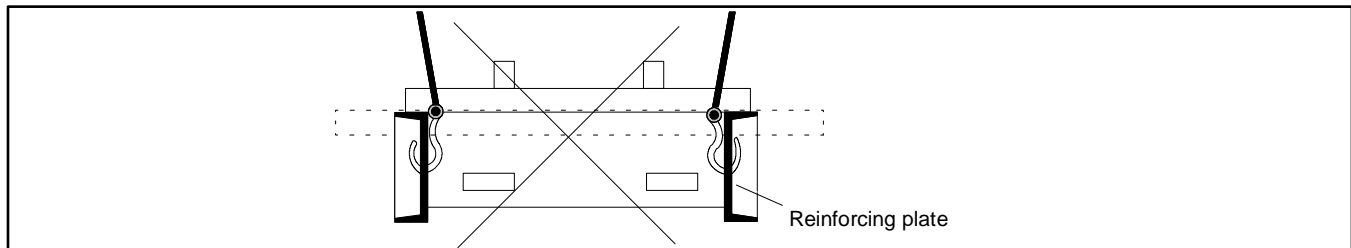

Figure 3 Improper Lifting Hook Placement (above 1000 kW)
- Generator sets typically above 1000 kW may have reinforcing plates on the skid. Do not attach lifting hooks to the reinforcing plate. See Figure 3.